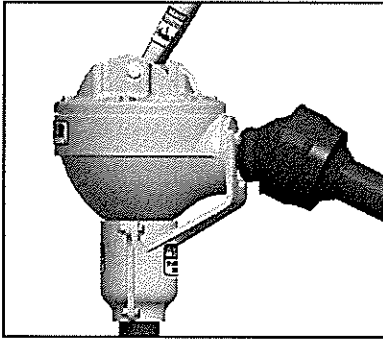

FIG. 8 - AUGER ADAPTER
STEP 13: Install the Auger Adapter Shields (PN 6137) around the auger adapter and secure to the guard bracket (PN 6274) with two bolts (PN 1180) and two nuts (PN 2168). Install two bolts (PN 2339) and two nuts (PN 2168) in the bottom two holes of the Auger Adapter Shields. (Refer to Fig. 8.)